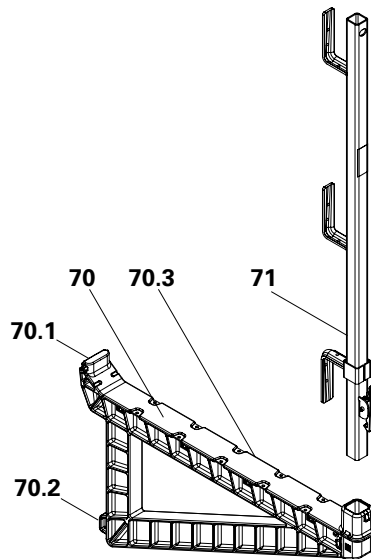

Fig. B4.00
A concreting scaffold is erected on the DUO formwork by means of DUO 70 scaffold brackets. (Fig. B4.00 + B4.01)
1. Insert the PP post (**71**) into the DUO 70 scaffold bracket (**70**). (Fig. B4.00)